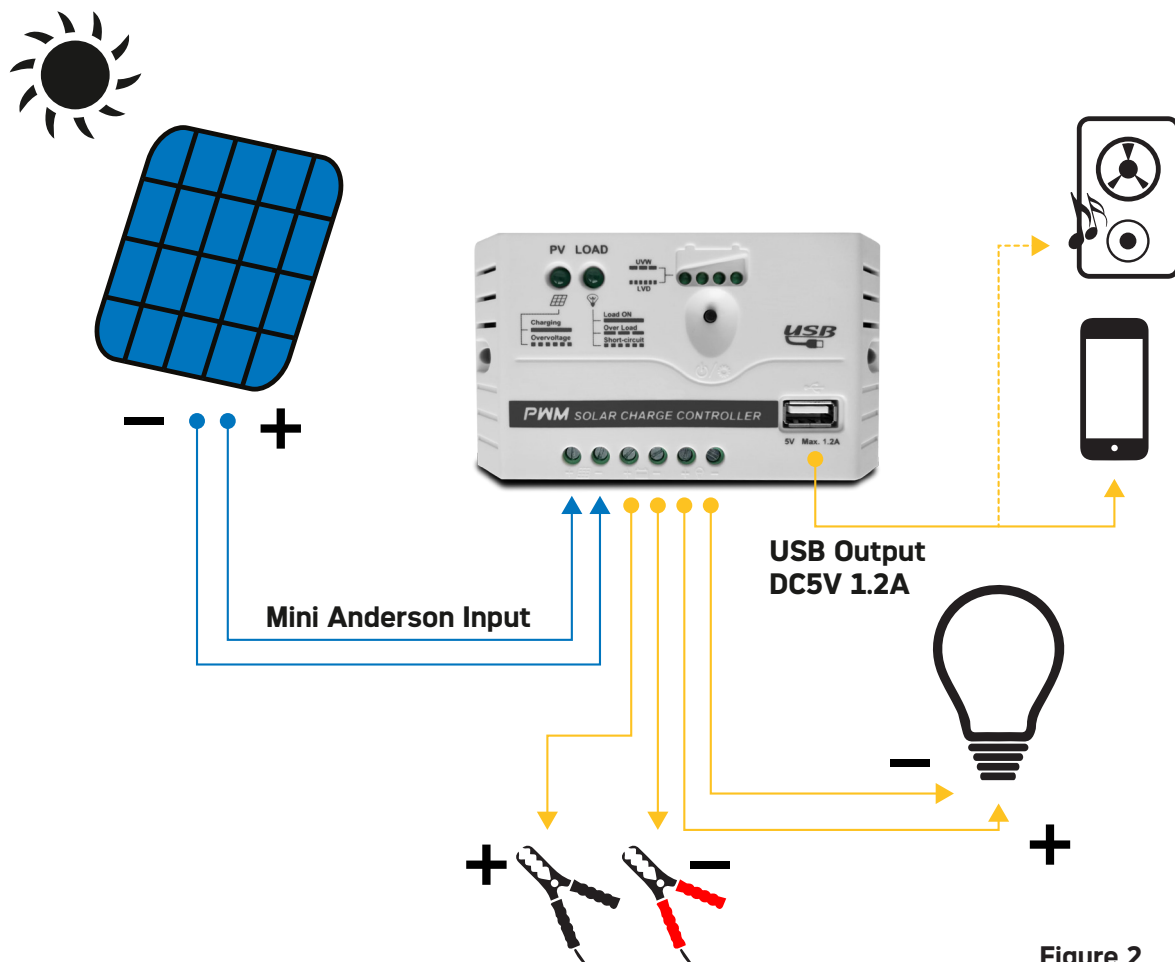

Figure 2
❶ PV-Terminals	❹ Button for setting the consumer and to set the battery type
❷ Battery Terminals	❺ Battery status LED indicator
❸ Load Terminals	❻ Load status LED indicator
❹ USB output interface	❼ Charging status LED indicator
❺ Mounting Hole $\varnothing 4.5\text{mm}$
Connect the system in the order of ❶ Battery → ❷ Load → ❸ PV array and disconnect the system in the reverse order ❸ ❷ ❶ [see figure 2].